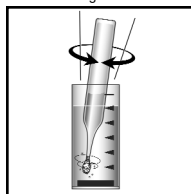

Figure 2
2. Dissolve the crystals on the tip of the ampoule by stirring for **10 seconds** with the ampoule tip (fig. 2).